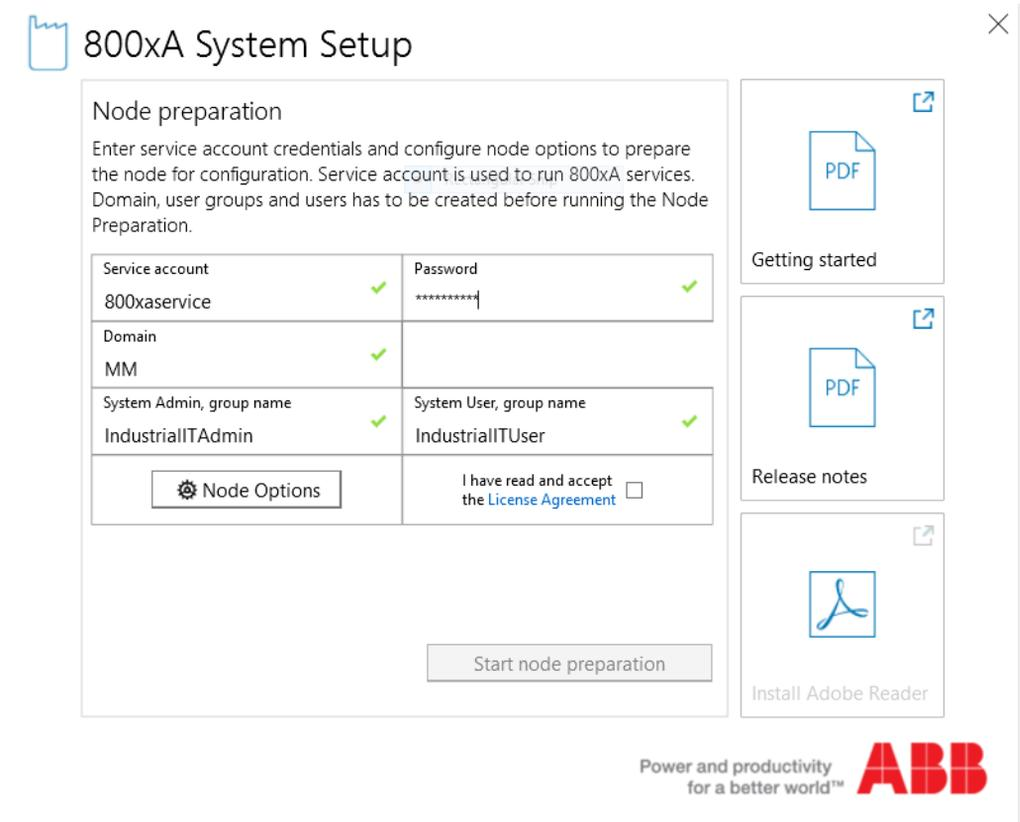

Figure 2. Node preparation tool
5. Click **Start Node Preparation** (see Figure 2).